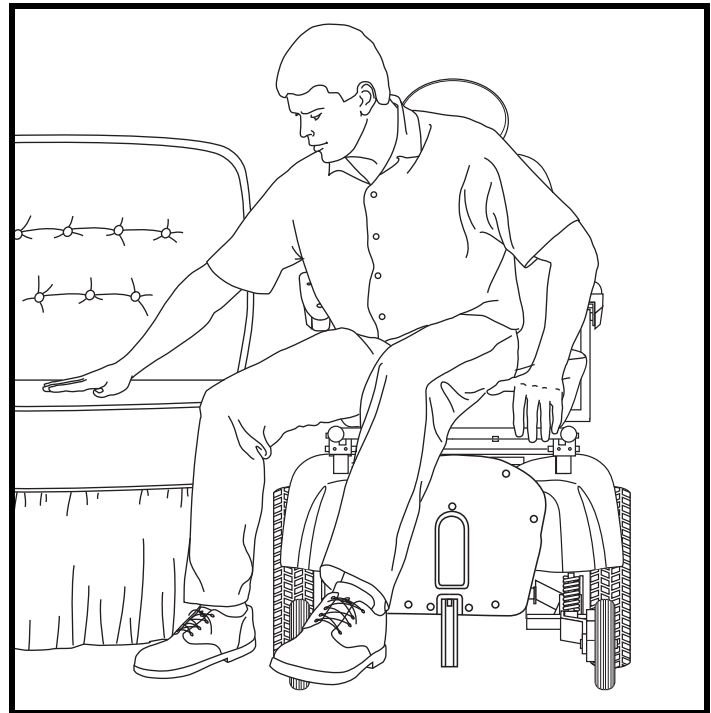

Figure 4. Ideal Transfer Position
- Reduce the distance between your power chair and the object you are transferring onto. See figure 4.